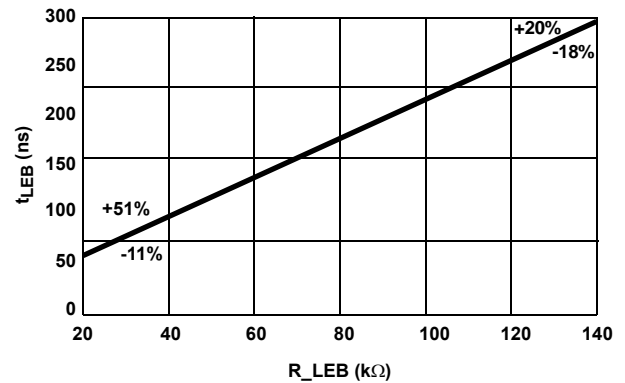

FIGURE 8. R\_LEB vs tLEB
- The blanking time can be estimated with Equation 9, whose relationship can be seen in Figure 8. The percentages in the figure are the tolerances at the two endpoints of the curve.